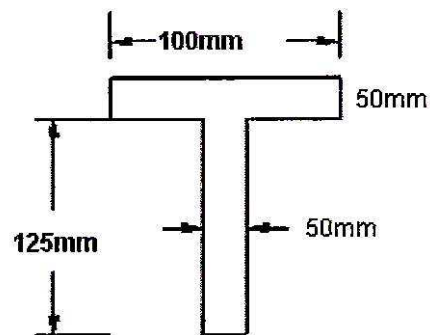

Fig. 1
- (b) A simply supported beam 8 m span carries u.d.l. of 3 kN/m over entire span. Find the maximum bending stress induced if the cross-section is as shown in Fig. 1. [6]